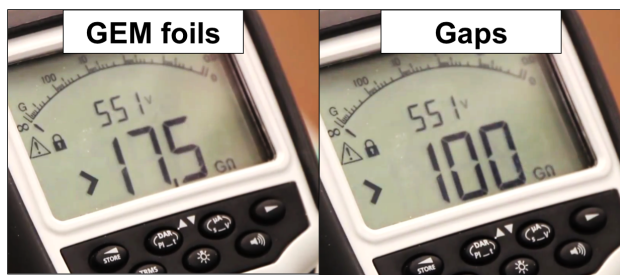

Figure 106: Expected impedance of GEMs and gaps.
Step 8: In the case of GEM foils, the impedance should reach $20 \text{ G}\Omega$ after few seconds. The impedance of the gaps however should reach more than $100 \text{ G}\Omega$ immediately after applying the voltage (Fig. 106).